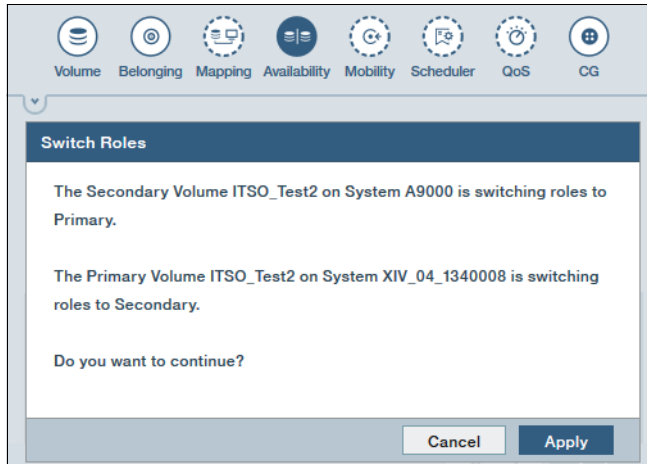

Figure 4-57 Switch role details
2. Click **Apply**, as shown in Figure 4-57, to switch the roles of the primary and secondary site.